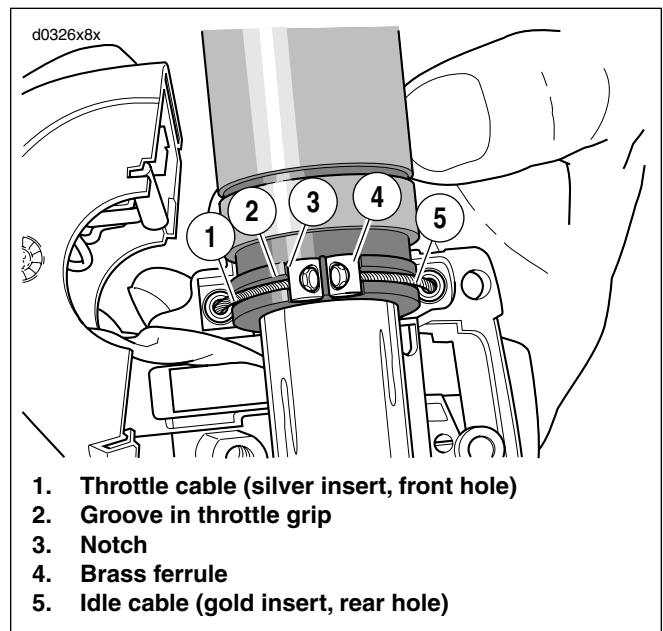

Figure 8-36. Throttle Cable Installation
10. See Figure 8-36. Position lower switch housing beneath the throttle control grip. Install the brass ferrules onto the cable so that the end fittings seat in the ferrule recess. Seat the ferrules in their respective notches on the throttle control grip. Verify that the cables are captured in the grooves molded into the grip.